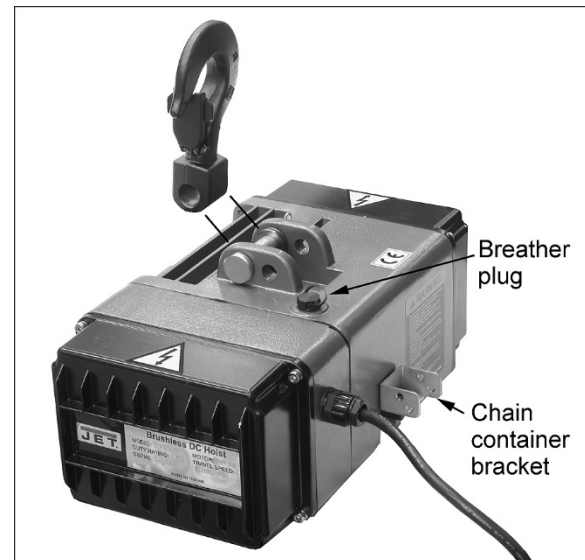

Figure 9-1 (BLVS050 shown)
Attach the top hook with the provided lock bolt, hex nut and cotter pin (Figure 9-1).
Your hoist has been shipped with oil included in the gearbox. Before operating, verify the oil level by removing the fill plug on top of the hoist, shown in Figure 9-1. The oil level should be just below the edge of the hole.
**IMPORTANT:** Before operating hoist, pull out the rubber breather plug from the top fill plug (Figure 9-1). Reinsert this plug if hoist is to be transported or placed in storage.
3. Mount chain container to bracket on side of hoist (Figures 9-1 and 9-4), using the two socket head bolts and lock washers.